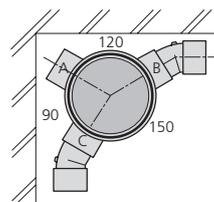

Fig.29c Corner layout
- Use bosses C and B for corner situations (two waste pipes approaching at 90°) (Fig.29c)